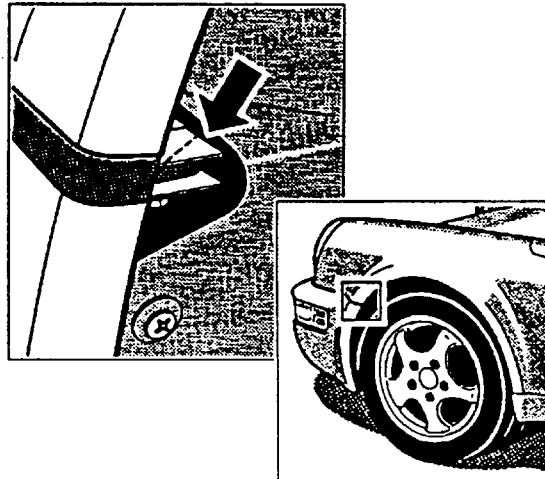

Figure 2
3. The bumper cover plastic edge should protrude slightly in the bumper cover to fender joint area. If the fender metal edge protrudes, only the metal edge should be reworked (cut) in the area of the outer mounting screws on the left and right side to ensure adequate tire clearance (arrow in Figure 2). After cutting metal, apply rust prevention paint.
4. On the front fender, from approximately 150mm above the rocker panel to the front bumper, the inner fender edge has to be bent up. **Do not cut or grind this edge off.** Also the metal edge of the fender has to be cut off. See Figure 2 below.